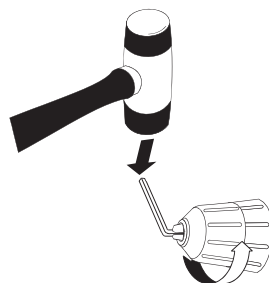

Fig. 8
3. Insert the hex key into the chuck and tighten jaws of chuck securely (see Fig. 8). Tap the hex key sharply with a mallet in a COUNTER-CLOCKWISE direction. This will loosen the chuck on the spindle. The chuck can now be unscrewed and removed from the spindle by hand.